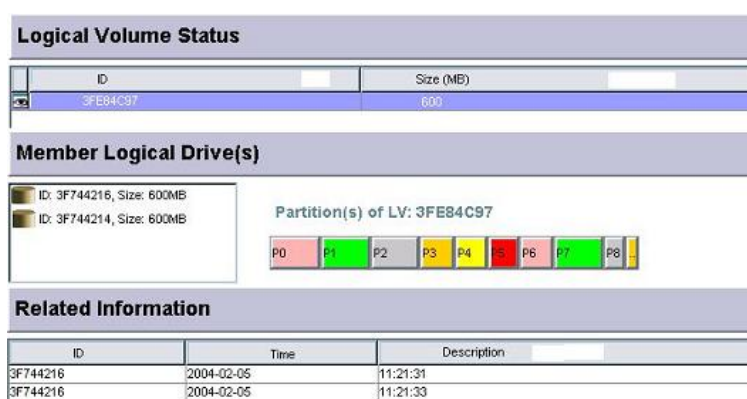

Figure 11-9: Opening Logical Volume Information Display
Step 1. To access the *Logical Volume Information*, single-click its display icon on the navigation panel or select the command from the *Action* command menu. After opening the information window, select a logical volume by single mouse-click. The window defaults to the first volume on the list. A display window as shown in *Figure 11-9* should appear.